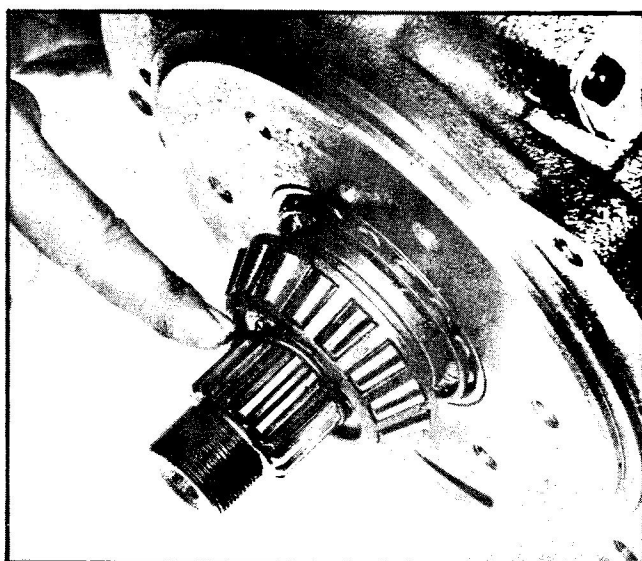

Fig. 20 Remove "O" Ring
4. Remove the "O" ring from behind bearing cones, (Fig. 20).
5. Remove the two bearing inner races and cones from output shaft, (Fig. 20).